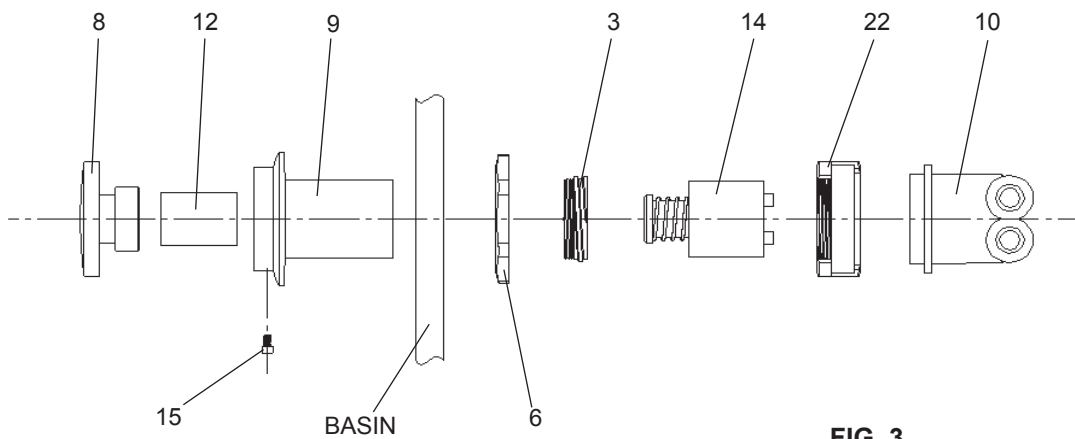

FIG. 3
7. **Check stream height from bubbler.** Stream height is factory set at 45-50 PSI. If supply pressure varies greatly from this, adjust the screw on regulator item 14 by using a small screwdriver through the small hole in the push button item 8 (See Fig. 3). Clockwise adjustment will raise stream height and counter-clockwise adjustment will lower stream height. For best adjustment stream height should be approximately 1-1/2" (38mm) above the bubbler.